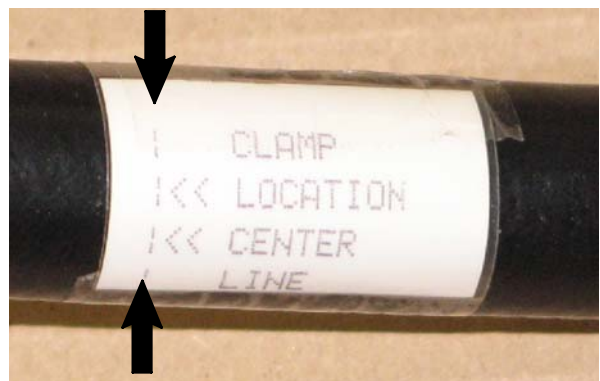

FIG. 5
9. Loosen the hose clamp, position the hydraulic hose (1) so the CLAMP LOCATION LINE markings on the label are centered in the hose clamp, and reinstall the hose clamp. Refer to Fig. 2, Fig. 3, and Fig. 5.